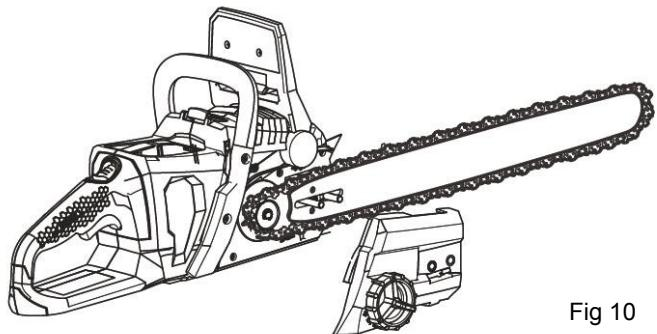

Fig 10
- Replace the chain cover ensuring that the adjusting pin in the chain cover is in the bar chain tensioning pin hole and that both bar studs are securely in their respective holes in the chain cover. (Fig 10)